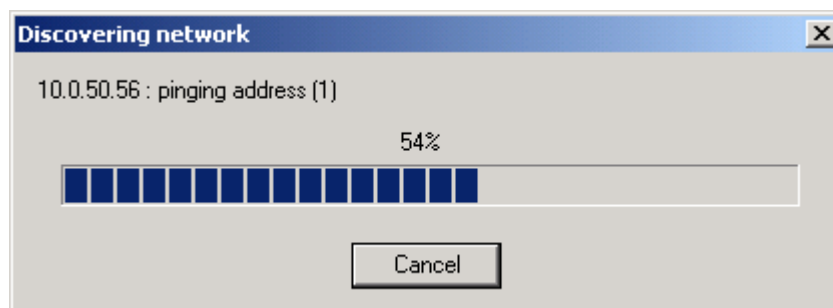

Fig. 41. Searching progress
2. Click on “OK” and the following dialog box shall display the searching progress (Fig. 41)